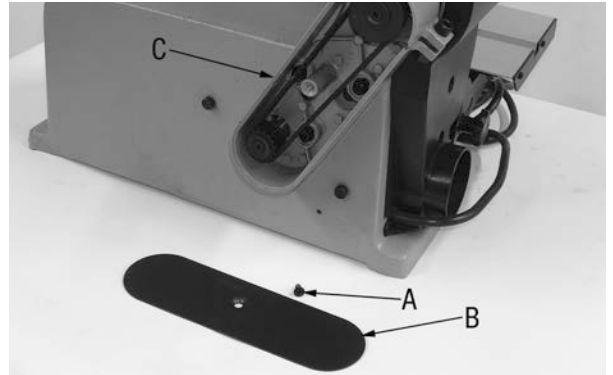

Figure 14
1. Using a Phillips screwdriver, remove the flat head screw (A) Fig.14 located in the middle of the drive belt cover (B).
2. Remove the cover (B) from the belt housing (C).
4. Slightly tighten the 3 screws (A) Fig.15. Adjust tension of belt by putting a flat head screwdriver in the bracket slot hole (C), just below the bottom of the belt housing (C) Fig.14. Pushing up on screwdriver will tighten the tension of the belt between the pulleys.
7. Reinstall the belt cover (B) Fig.14 using flat head screw (A) and a Phillips screw driver.